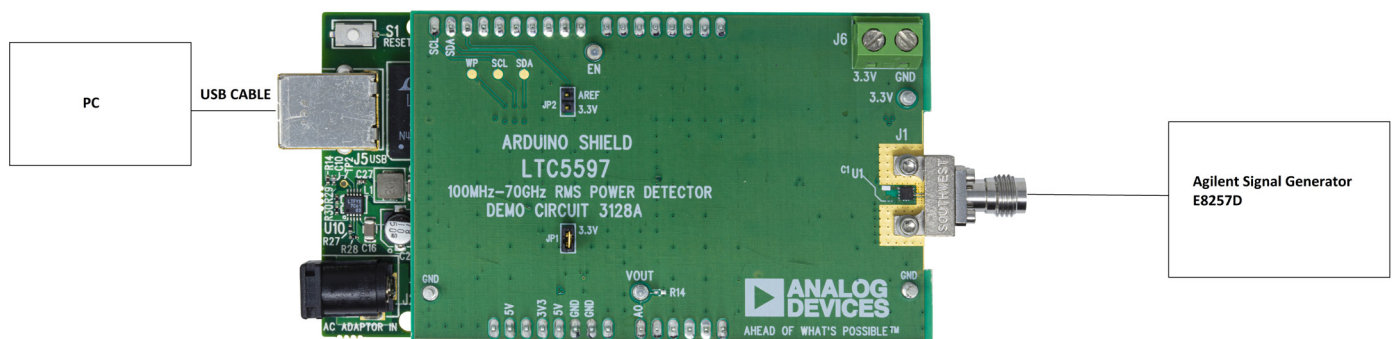

Figure 1. Test Setup for RF Performance Measurements
1. Remove the DC3129A-KIT from its protective packaging in an ESD-safe working area, connect USB cable to PC (see Figure 1).